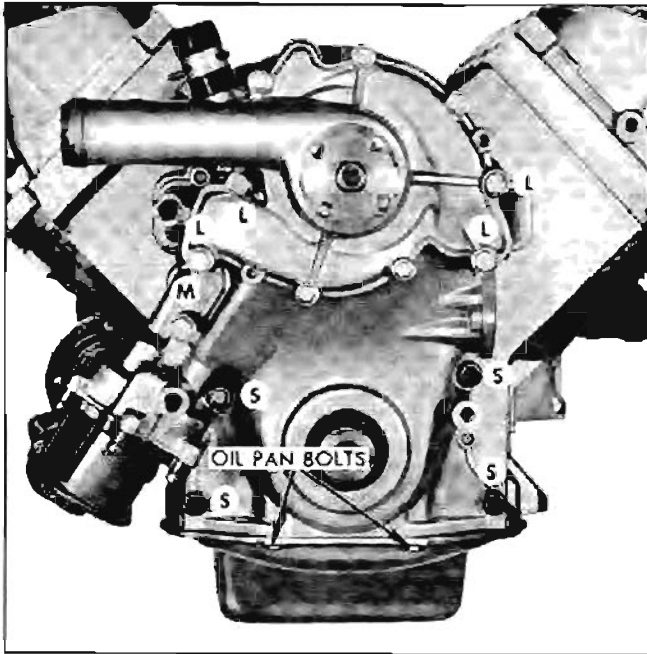

Fig. 6-96 Timing Chain Cover Bolt Location
11. Remove bolts attaching timing chain cover to cylinder block. Remove two oil pan to timing chain cover bolts. See Fig. 6-96. Remove timing chain cover and gasket. Thoroughly clean cover, taking care to avoid damage to gasket surfaces.
Position timing chain cover against block and be certain dowel pins engage dowel holes before starting bolts. Lubricate bolt threads and install as shown in Fig. 6-96. Torque 20-25 lb. ft.